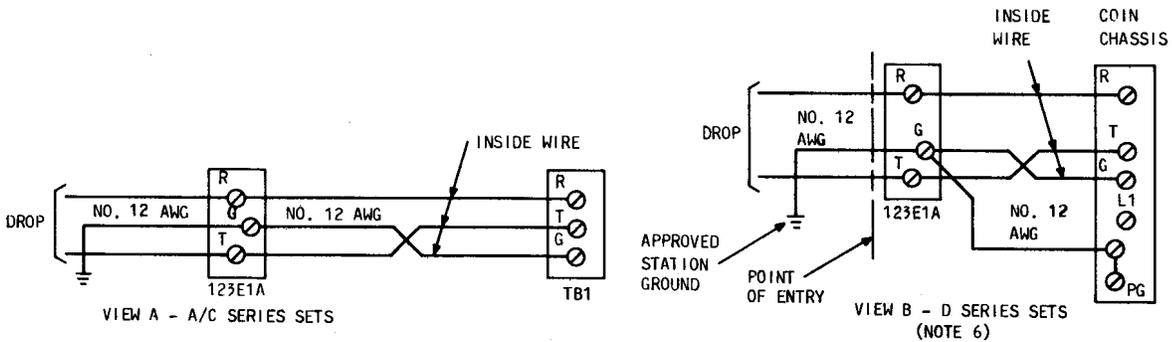

Fig. 8—Grounding Requirements
- (e) When required install ground rod before pouring concrete, leaving 4 to 5 inches above top of base. Refer to Fig. 8 to determine if ground rod is required.